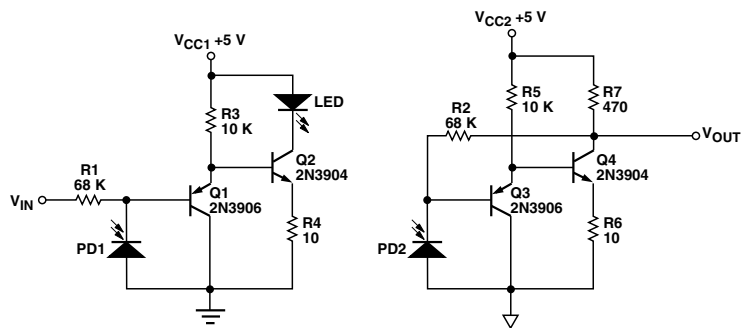

Figure 16. High-speed low-cost analog isolator.
- IMRR is defined as the ratio of the signal gain (with signal applied to V_{IN} of Figure 16) to the isolation mode gain (with V_{IN} connected to input common and the signal applied between the input and output commons) at 60 Hz, expressed in dB.
The circuit shown in Figure 16 is a high-speed low-cost circuit designed for use in the feedback path of switch-mode power supplies. This application requires good bandwidth, low cost and stable gain, but does not require very high accuracy. This circuit is a good example of how a designer can trade off accuracy to achieve improvements in bandwidth and cost. The circuit has a bandwidth of about 1.5 MHz with stable gain characteristics and requires few external components.
Although it may not appear so at first glance, the circuit in Figure 16 is essentially the same as the circuit in Figure 12a. Amplifier A1 is comprised of Q1, Q2, R3 and R4, while amplifier A2 is comprised of Q3, Q4, R5, R6 and R7. The circuit operates in the same manner as well; the only difference is the performance of amplifiers A1 and A2. The lower gains, higher input currents and higher offset voltages affect the accuracy of the circuit, but not the way it operates. Because the basic circuit operation has not changed, the circuit still has good gain stability. The use of discrete transistors instead of op-amps allowed the design to trade off accuracy to achieve good bandwidth and gain stability at low cost.